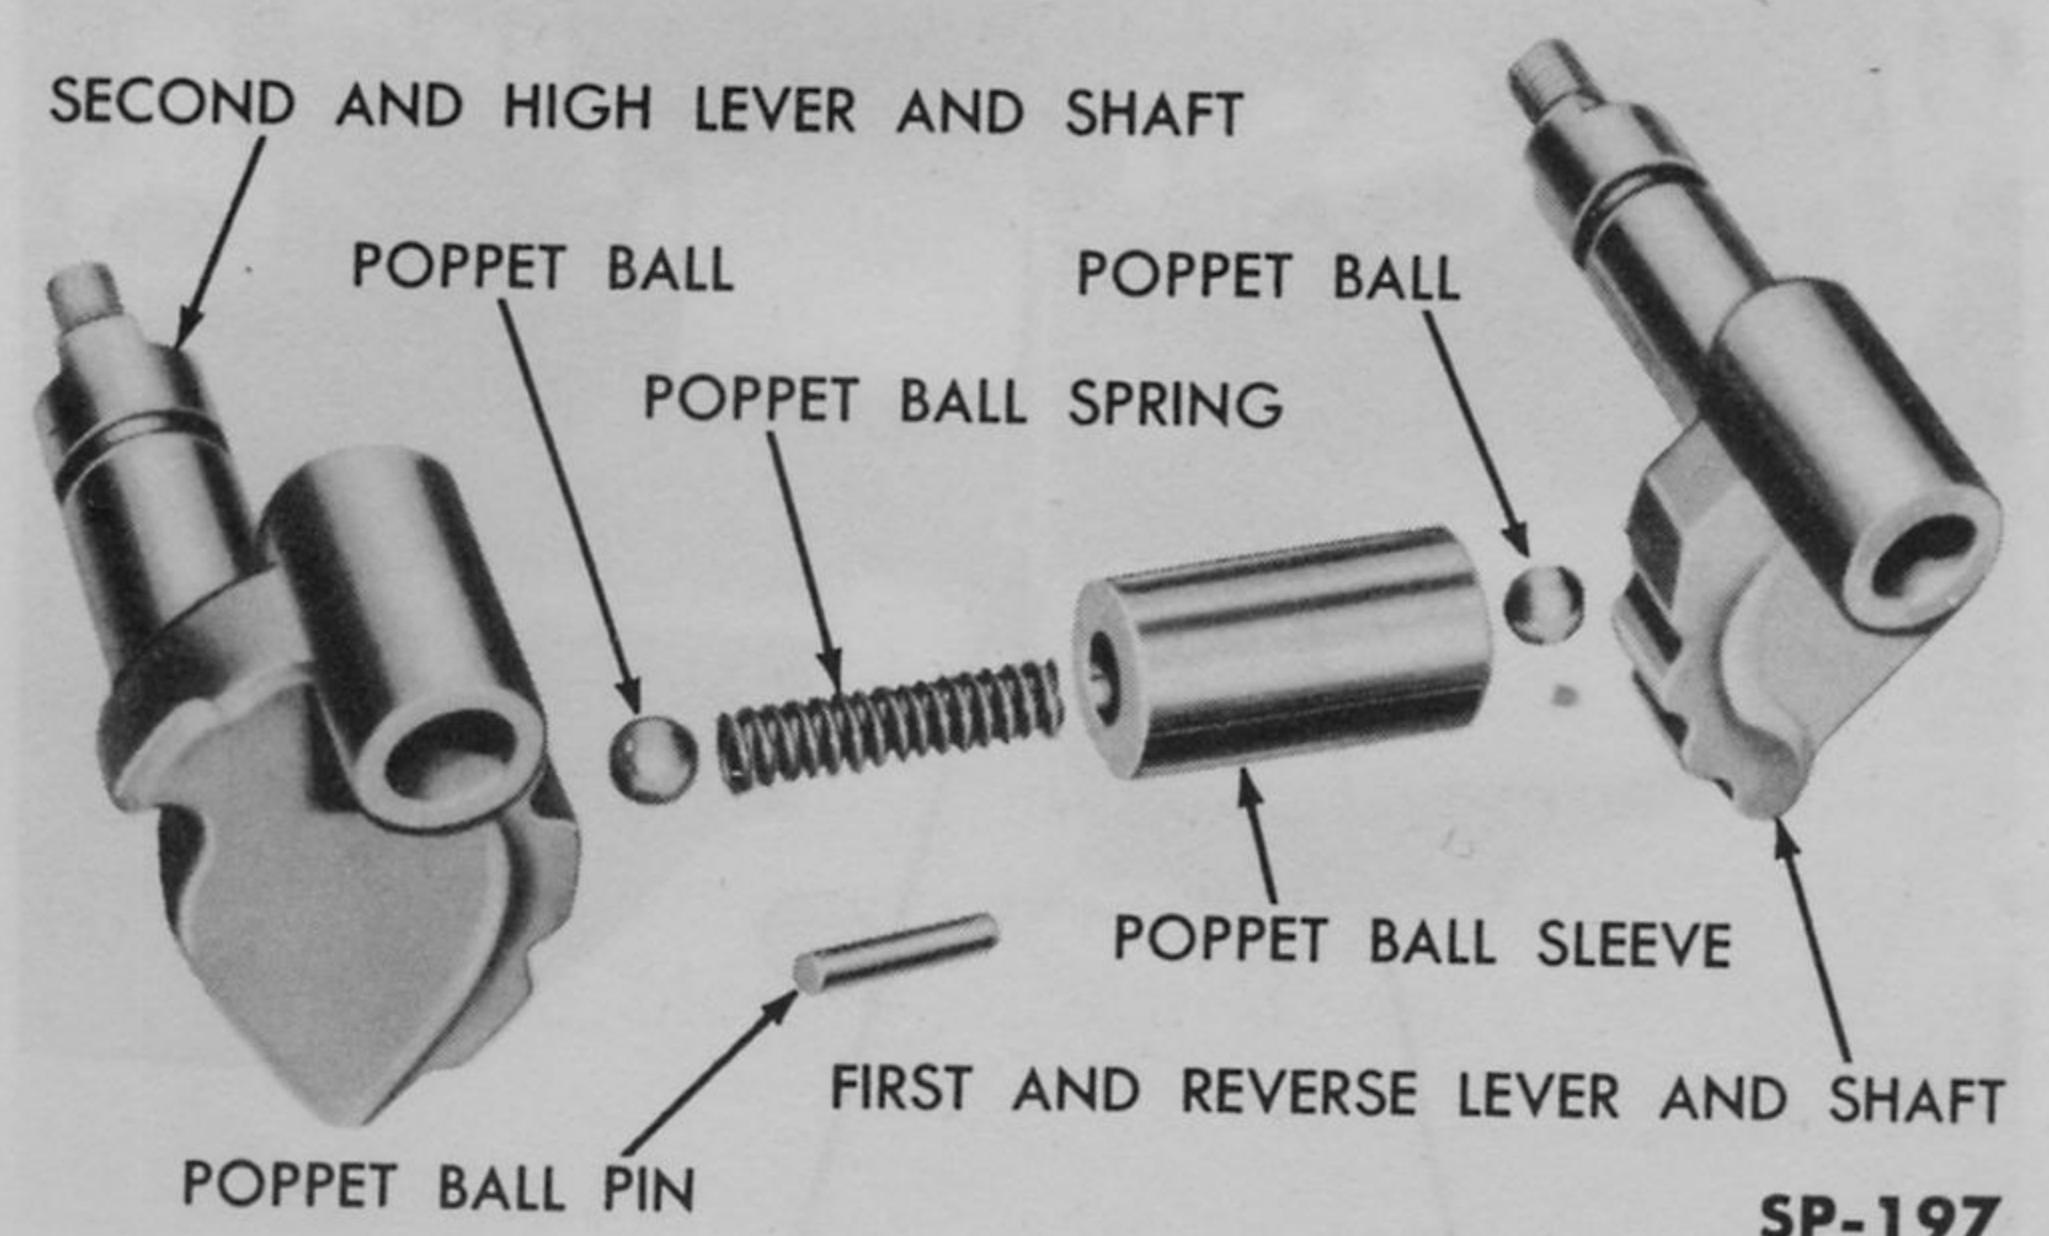

Fig. 201—Interlock Components—Exploded View
6. Install the interlock and outer shift levers. Initial assembly of the transmission case includes the installation of the interlock (Fig. 201) and the outer shift levers. Proceed with the assembly as follows:
poppet ball by depressing the poppet ball spring and pressing the poppet ball into position as the lever and shaft are pulled outward to normal position (refer to Fig. 201).